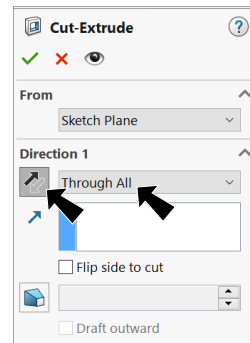

Fig. 32
Step 14. In Cut-Extrude Property Manager: under Direction 1, **Fig. 32**